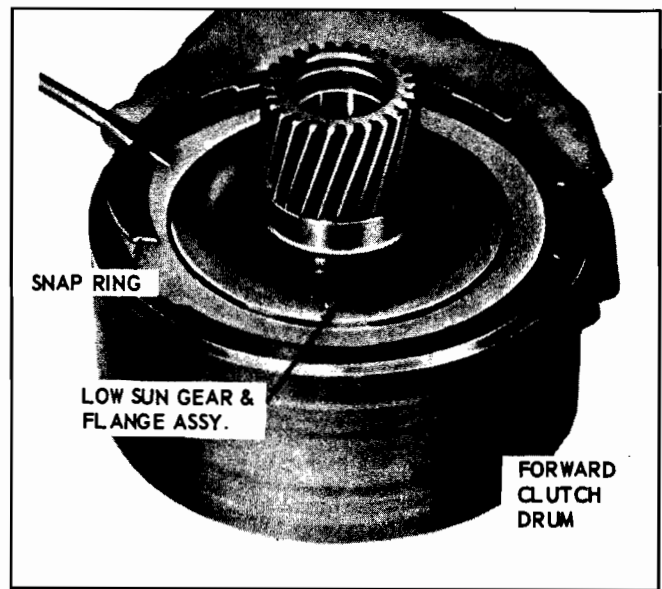

Fig. 7F-46 Removing Low Sun Gear and Flange Assembly Snap Ring
7. Using Spring Compressor J 23327 with Pilot J 9542 4, compress piston return springs (Fig. 7F-51). Remove snap ring.